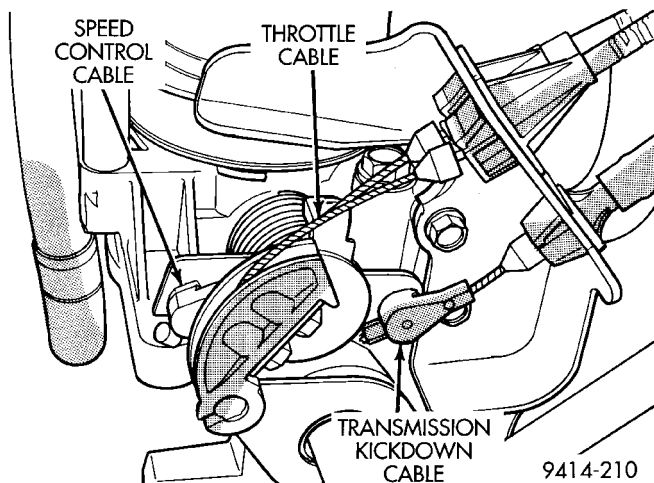

Fig. 33 Throttle Cable—Automatic Transmission
(4) Verify the throttle cable operates freely (Fig. 33).